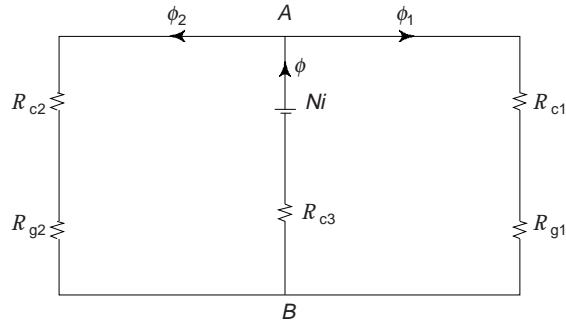

Fig. P2.2(b)
- (b) $\mu_r = 4,500$. The corresponding analogous electrical circuit is given in Fig. P2.2(b). Effect of air-gaps on iron path length is negligible.